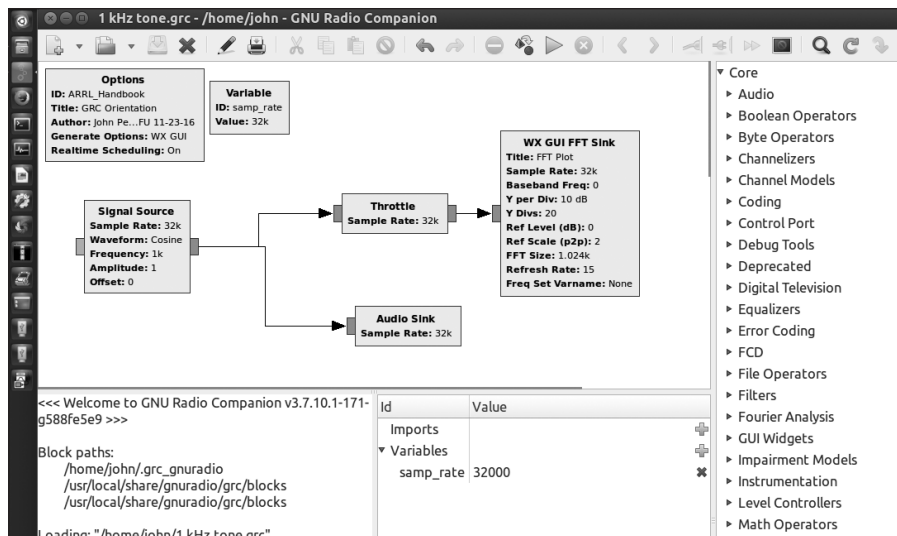
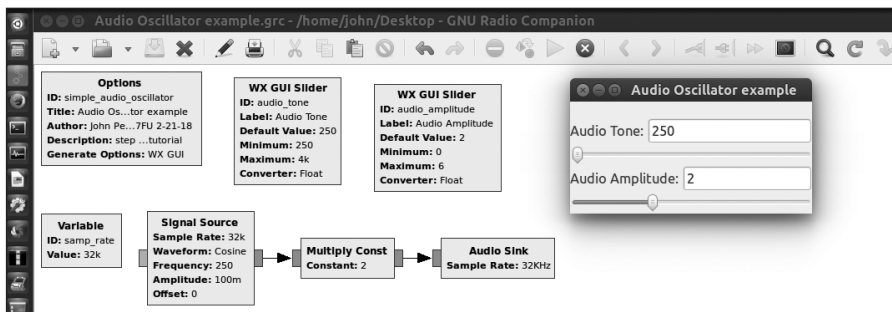

Figure 14.12 — The development window user interface for *GNU Radio* functional blocks.
Figure 14.17 — The flow graph for the audio oscillator.
Let's examine the *GRC* work environment and flow graph composition at the highest level or block level. The *GRC* work environment consists of four parts: the work area, the control bar, the library, and the console. **Figure 14.12** illustrates the *GRC* user graphic user interface (GUI). The DSP is authored in the work area in the center of the GUI screen. The *GRC* control bar is located across the top of the work area. The *GNU Radio* DSP library runs along the right margin of the screen. The operating console is visible at the very bottom of the work environment and becomes active when a DSP function is executed.
Step 1 — the Blocks: Arrange the appropriate DSP blocks from the *GRC* library to form a diagram of the desired circuit in the work area. See how the functional blocks are arranged in the example flow graph in the work area of Figure 14.17.
In practice, the above outlined flow graph is created in the *work area* of the *GRC*. To operationalize the flow graph, select the *Execute flow graph* control (a green arrow on the screen) from the tool bar above the *work area*. After the software compiles, the DSP will spring to life. The operational GUI appears on the screen with the control functions displayed as shown on the right side of the screen in Figure 14.17.
Step 1 — the Blocks: Figure 14.17 is a screen capture of the audio oscillator flow
The flow graph blocks are selected from the library off the right-hand edge depicted in Figure 14.12 (not Figure 14.17) and placed in the work area. At a glance, the flow graph block diagram is constructed to look essentially the same as a traditional analog radio block diagram with the same components. The diagram and component content reflect standard signal processing practice. A traditional circuit block diagram for a simple sine wave oscillator with audio output would consist of series of blocks linked by lines: an oscillator block, a frequency control, an audio amplifier, an audio volume control, all connected one after the other, to an audio output block.
Step 2 — the Parameters: Most of the parameters for each DSP block are visible in Figure 14.17. Examine the parameters of each block with a right-click on the block and select *Properties*. Right-click the *QT GUI Range* control block with the *ID audio_tone* located at the top of the work space. This block is the control block for the oscillator frequency or audio tone. Note the block ID, *audio_tone*, and the tone's tuning range from 250 Hz to 4 kHz in 1 Hz steps. This block connects to and controls the *Signal Source* DSP block output frequency, which is the audio oscillator tone in this example.
Once all steps are completed, the flow graph is ready to be executed. Upon execution, a new GUI appears on the screen with the controls displayed. That GUI screen is superimposed in the upper right-hand corner of the screen capture in Figure 14.17. Listen for the 250 Hz audio tone in the speaker. Adjust the audio volume and audio frequency with the GUI controls. You can also experiment with adjusting the sample rate in the *Variable* block or parameter values in any block and observe the effect these changes have on the operation of the flow graph. (The *GRC* flow graph for this example is included in the downloadable supplemental package for this book. The file, Chapter 14 - Audio Oscillator example.grc, can be executed in the *GNU Radio* application.)
Not only is the data stream manipulated in a mathematically determined manner, but the mathematical structure of the digital data stream has an impact on how a flow graph can function. Return to the flow graph in Figure 14.17 where the *Output Type* DSP parameter reflects the structure of the digital data stream that communicates among the DSP blocks. The mathematically processed digital data stream *Output Type* can be customized as necessary for advanced DSP processes.